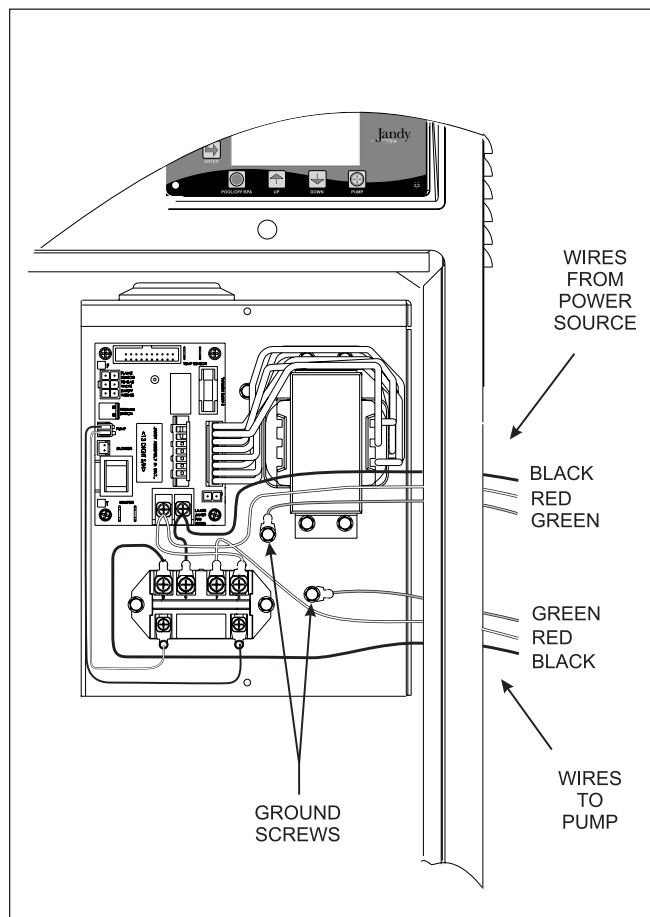

Figure 17. Field Wiring Connections (230V Shown)
box (see Figure 17). Be sure to follow the wiring diagram (see Figure 16) to configure the power for the correct input voltage.
4. Install the relay (Jandy part number R0658100) in the mounting holes provided in the power connection box (See Figure 17). The relay must be installed so that it is protected by the power connection box cover when it is replaced.